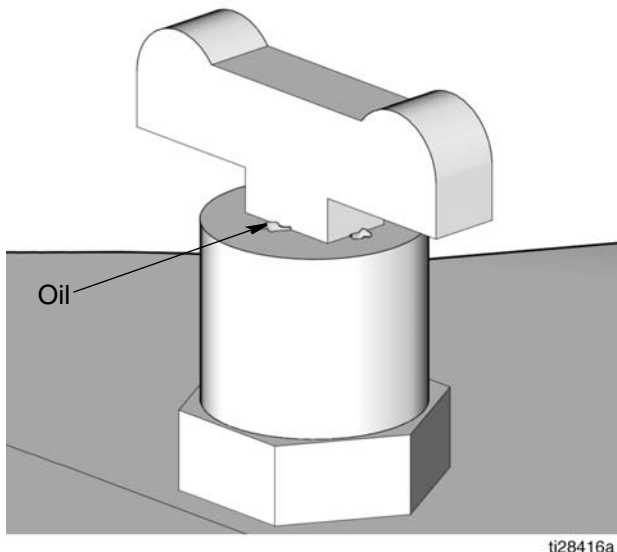

FIG. 6
1. Make sure the **supply line (G)** is connected and there are no open lines for oil to leak out of the **pump outlet (E)**.
2. Close the **oil supply shut-off valve (V)**.
3. Turn on the **oil input supply pump/system (DD)**.
4. Adjust **pressure reducing valve (U)** to limit the oil inlet pressure to 80 psi (0.55 MPa, 5.5 bar).
5. Slowly open the oil supply **shut-off valve (V)**.
6. Remove the trapped air in the pump reservoir (K) by slowly opening the cock valve (BB) until oil can be seen coming out after all the air is released as shown in FIG. 6.